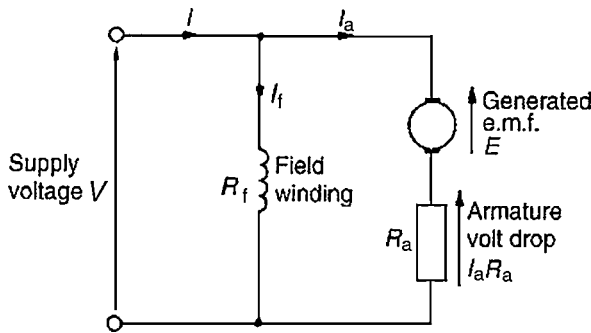

Figure 22.16
In the shunt wound motor the field winding is in parallel with the armature across the supply as shown in Fig. 22.16.
For the circuit shown in Fig. 22.16,
- (ii) The armature circuit of a d.c. motor has resistance due to the armature winding and brushes, R_a ohms, and when armature current I_a is flowing through it, there is a voltage drop of $I_a R_a$ volts. In Fig. 22.16 the armature resistance is shown as a separate resistor in the armature circuit to help understanding. Also, even though the machine is a motor, because conductors are rotating in a magnetic field, a voltage, $E \propto \Phi \omega$, is generated by the armature conductors. From Equation (5), $V = E + I_a R_a$ or $E = V - I_a R_a$. However, from Section 22.5, $E \propto \Phi n$, hence $n \propto E/\Phi$ i.e.